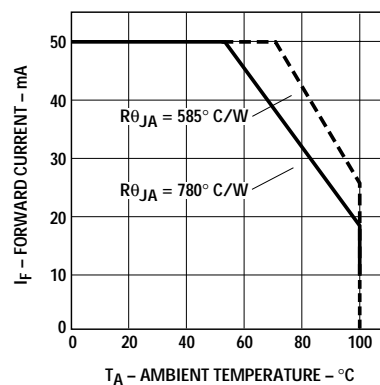

Figure 4. Maximum Forward Current vs. Ambient Temperature. Derating Based on  $T_{JMAX} = 130^\circ\text{C}$ .
1. Derate linearly as shown in Figure 4.